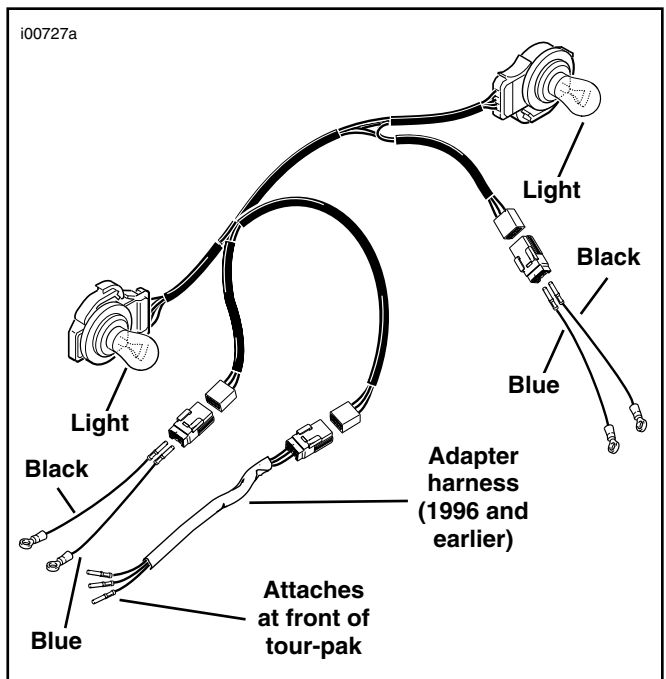
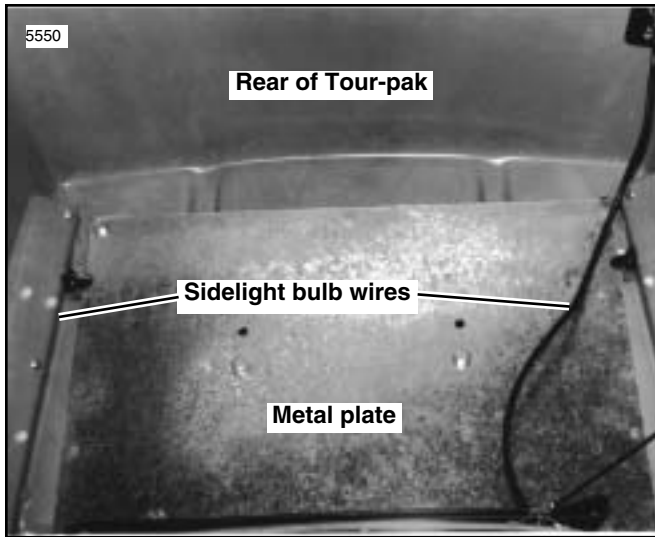

Figure 7. Wiring Harness
Figure 9. Inside Tour-Pak / Metal Plate
17. See Figure 7. Obtain wiring harness from kit. Lay harness in the bottom of tour-pak with the two lights aiming towards the rear corners of tour-pak and the end with the black connector located towards the left front corner of tour-pak (See Figure 9). Align three tabs on left light socket with slots in lamp housing. Gently push light socket inward and turn clockwise until it clicks. Wires should end up facing toward center of tour-pak. Repeat for right side.
18. If tour-pak has side marker lights with a wiring end connector, connect side marker lights to tour-pak wiring harness. If side marker lights do not have a connector, remove the tour-pak side light lenses. Unhook the tour-pak wiring harness from rearmost bulb, making note of posts to which black wires are connected. See Figure 9. Pull wires back into tour-pak and cut them off as close to metal plate in bottom of tour-pak as possible.
21. **1980 to 1996 models only.** Attach adapter harness to wrap around light harness by snapping together mating connectors. See Figure 7. Cut off plug end of existing wiring harness, located in front of tour-pak, as close to metal plate in bottom of tour-pak as possible. See Figure 9. Retain end.
22. **1980 to 1996 models only.** See Figure 9. Drill a 1/2 in. hole, 1 inch above location where existing wiring harness exited front left corner of tour-pak. Pass three wire ends on adapter harness through this hole.